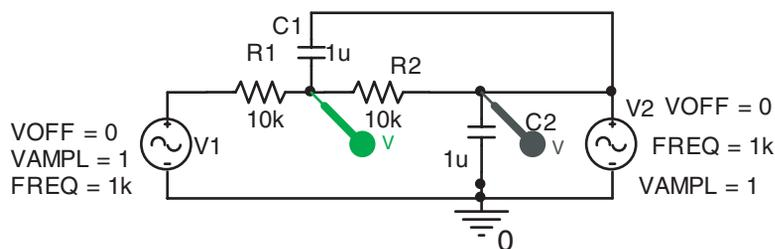

FIGURE 2.13: Part of a Sallen and Key active filter
- (3) For the circuit in Fig. 2.13, apply nodal analysis and obtain a value for the node voltage v . Hint: Substitute component values into the primary nodal equation before solving for v .